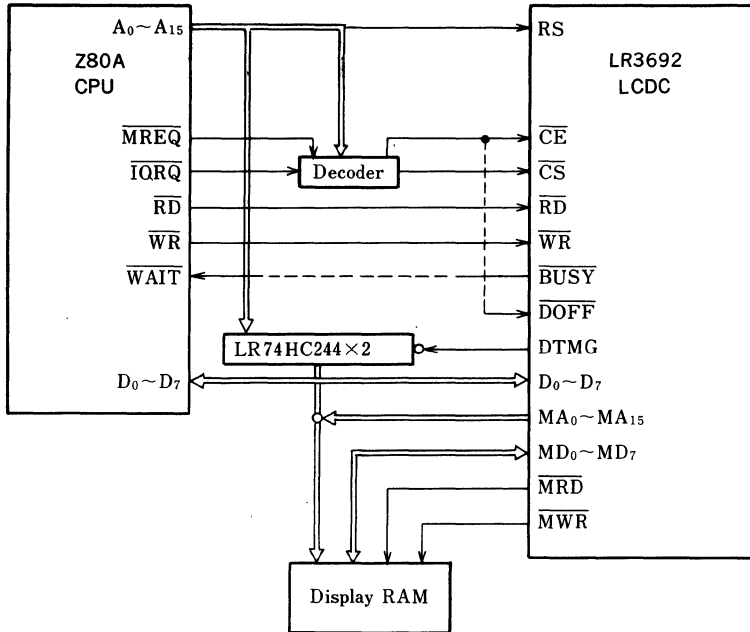

Fig. 2 Interface with CPU (Direct mode)
② Direct mode A sample system configuration for Direct mode access is shown in Fig. 2. The Direct mode is selected if the value of the command register is anything but 0CH. If BUSY is high and CE is low, the RD, WR and D0-D7 pins are linked to the MRD, MWR, and MD0-MD7 lines, respectively. At this time the DTMG is set at low and the MA0-MA15 pins are set to high impedance, to transfer the address specified of the CPU direct-